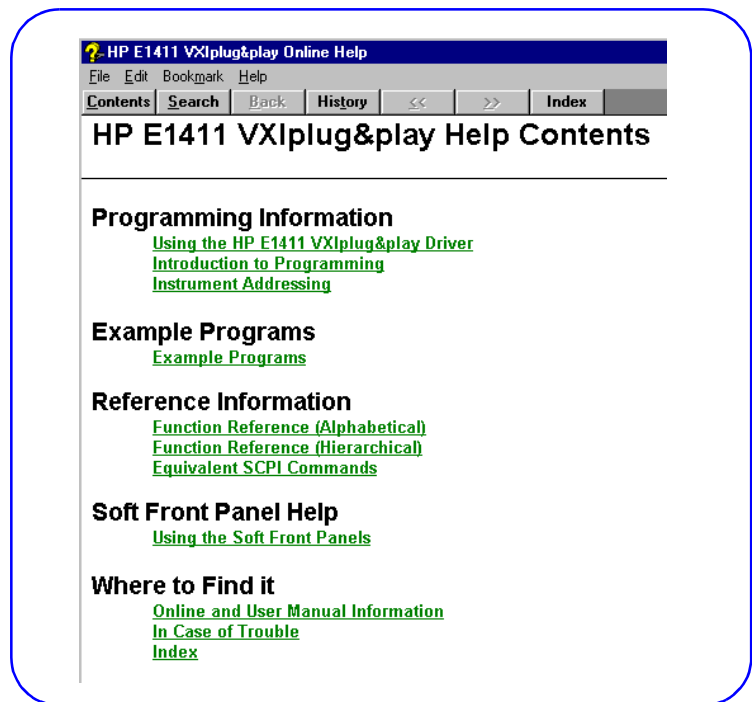

Figure 38. Typical VXIplug&play Help File Main Menu
- 2 For the first VXI instrument to be programmed, open the applicable instrument *VXIplug&play* Help File (*Start|Programs|Vxipnp|instrument help* icon). Figure 38 shows a typical *VXIplug&play* Help File main menu for the HP E1411 DVM that is displayed when you click *Start|Programs|Vxipnp|HP E1411 Help (32-bit)*.